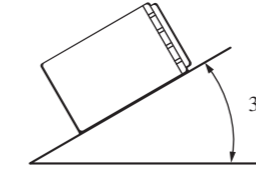

Fig. 4
- If installation angle exceeds 30° from horizontal, the unit might not give its optimum performance. (Fig. 4)